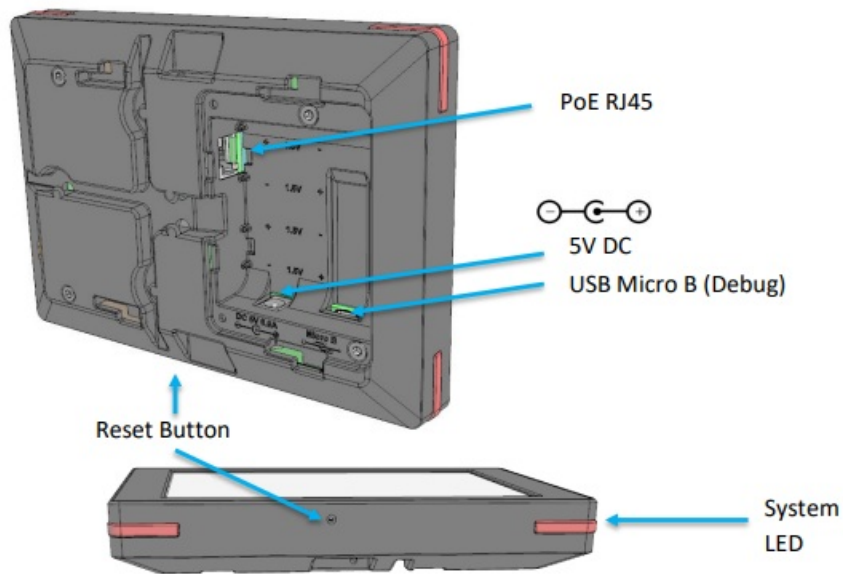
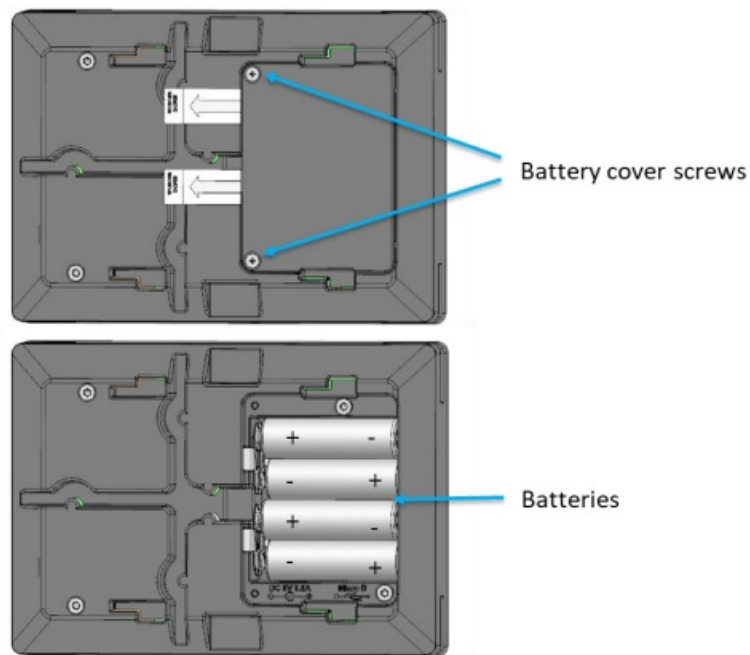

Figure 1-2: The Tablet (external) interface layout.
Figure 1-3: The Tablet (Battery) interface layout.
Figure 1-2 and Figure 1-3 illustrates the customer accessible interfaces of the Tablet. All models share the same
layout; however, some functions are not available in some models. The externally powered model shown in Figure 1-2 has RGB LEDs on the corners while the battery powered version shown in Figure 1-3 cannot use the LEDs.
- The reset switch of the Tablet is accessible through a pin hole in the bottom side of the Tablet as shown in Figure 1-2.
- Removed the battery cover by removing two philips screws shown in Figure 1-3